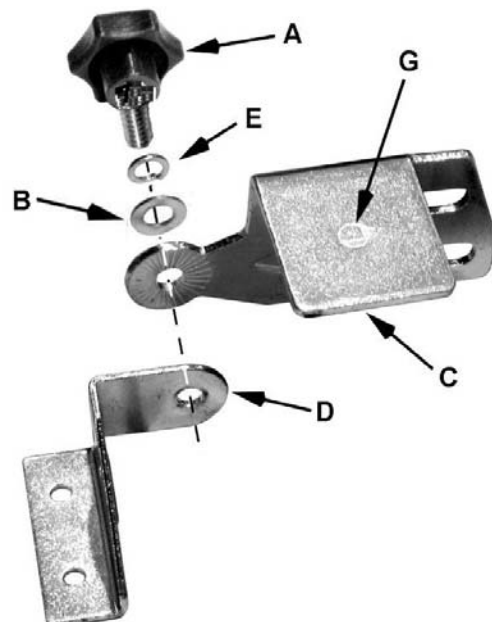

Figure 1
- 2 Brackets (D) (see Note)
- 2 Lock Knobs (A)
- 2 Spark Guards (C) (see Note)
- 2 6mm Flat Washers (B)
- 2 6mm Lock Washers (E)
Note: Brackets (D) and spark guards (C) are marked L (G, Fig. 1) for left side assembly and R for right side assembly.
1. Assemble the left *spark guard and eye shield mounting bracket* using Figure 1 as a guide. Make sure the spark guard and bracket are marked L.
Note: There is a *left* and a *right* tool rest. Refer to Figure 1 to ensure that you install them correctly.